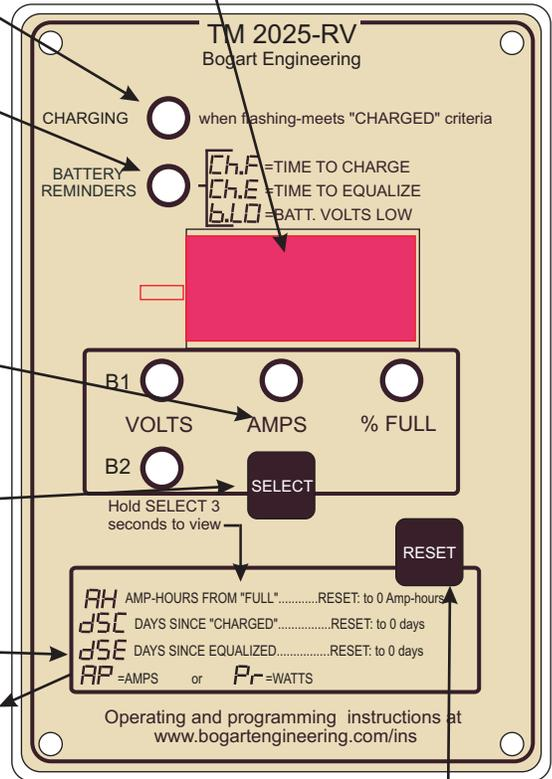

FIGURE 1
Refer to figure 1 which covers basic operation. It also has references for further information. **Note that “% full” will display only 3 dashes until system is fully charged for the first time.**
dSE Days since the battery was equalized. “Equalization” refers to occasionally overcharging a battery to help it maintain its capacity. It is usually recommended only for liquid electrolyte lead acid batteries, not AGM or Gel types. This display is intended to remind you when to equalize your batteries if this is not done automatically by your charging system. It is essentially just a manual timer, that reads in DAYS, so that you can see how long it has been since your batteries were equalized. Each day when not reset it will advance by 1.00 day. Then it must be MANUALLY RESET by you when you take action to equalize the batteries. For how to reset this, refer to Figure 1, in reference to the RESET button.
2.2.2. “Ch.E” (Charge Equalize) Reminder to equalize batteries occasionally, (typically monthly) if recommended by the battery manufacturer. Equalization refers to an occasional overcharge which is recommended by manufacturers of “liquid electrolyte” batteries (the ones with watering holes on top.) It is not ordinarily recommended for AGM or Gel type (VRLA) batteries. If you have liquid electrolyte batteries, and if you need to manually equalize, you can choose the equalization reminder interval (for example, once every 30 days) to flash “Ch.E” in the display after this interval. This feature is intended to remind you to equalize at regular intervals if equalization is not accomplished automatically by your charger or charge controller. Then, after you accomplish equalization you must manually reset the “Days since equalize” number as described in figure 1, by the RESET button. More information about equalization may be found in section 7: **Important information on how to keep from killing your batteries.** The number of days is programmed by Program P6. (See Table 2).